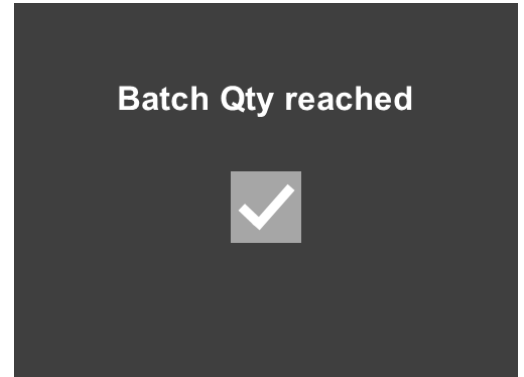

Figure 8.4.7
5. When the batch size is reached, an information message appears on the display, which must be confirmed by touching it. Only then can the crimping process be continued. See Figure 8.4.7.